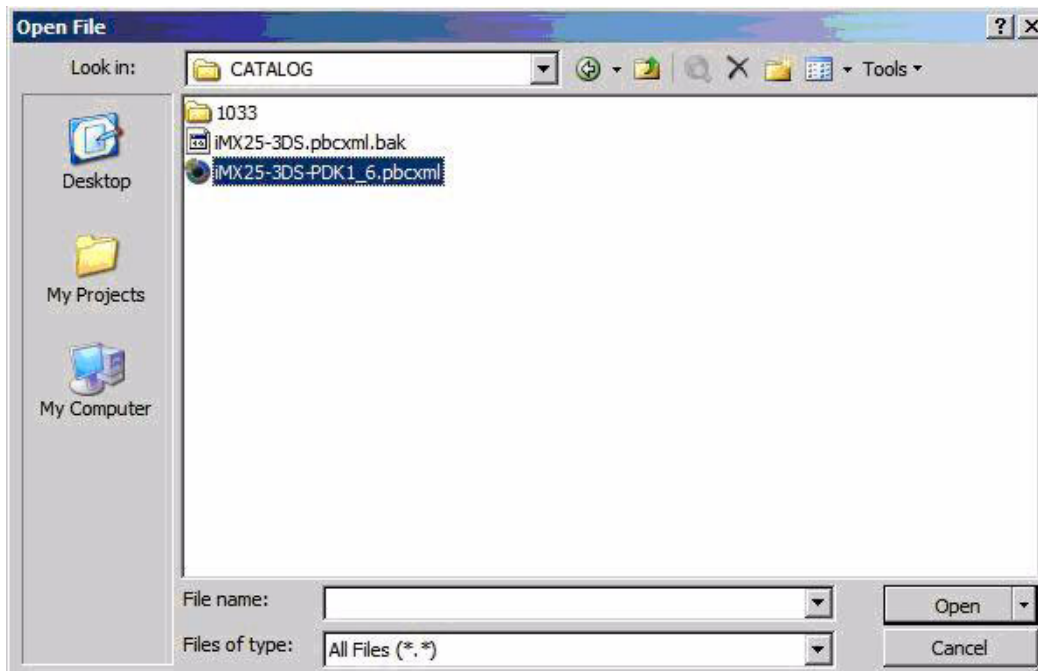

Figure 17. Opening Catalog File
2. Click File > Open > File to open the catalog file under \WINCE600\PLATFORM\iMX25-3DS-PDK1_6\CATALOG folder as shown in Figure 17.